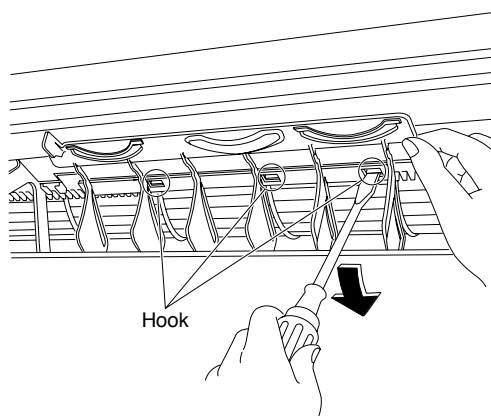

Fig. 15
- (2) Unfasten the 3 hooks at the shaft mounting part by pressing them with a flat screwdriver. (Fig.15)